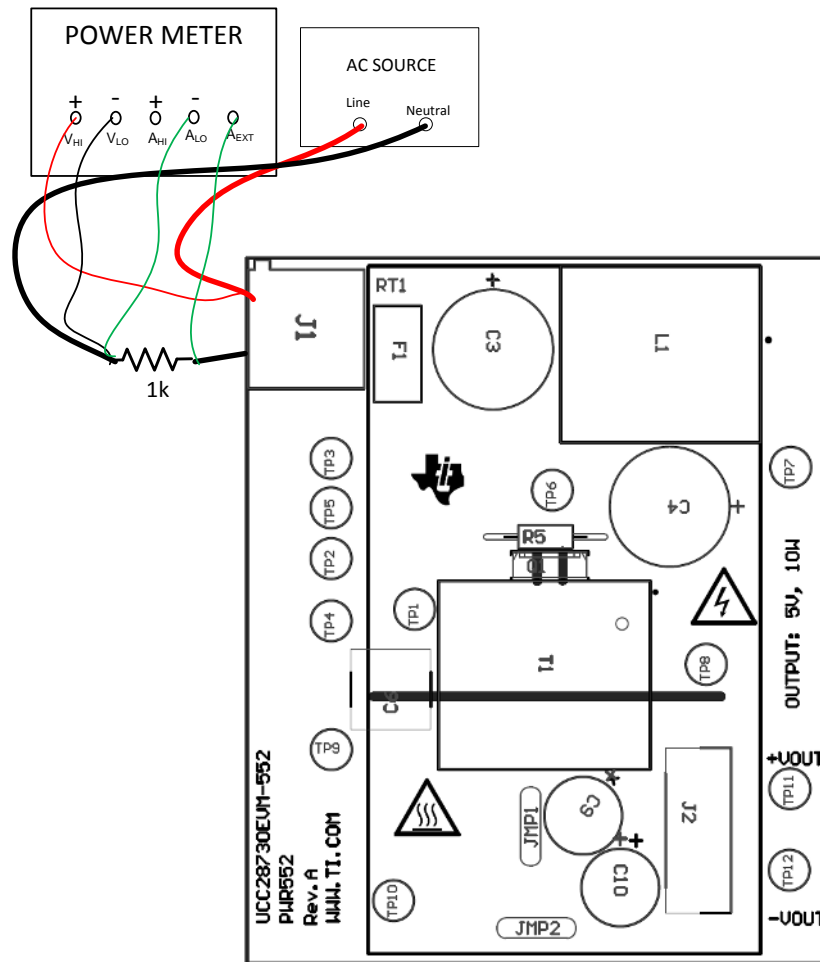
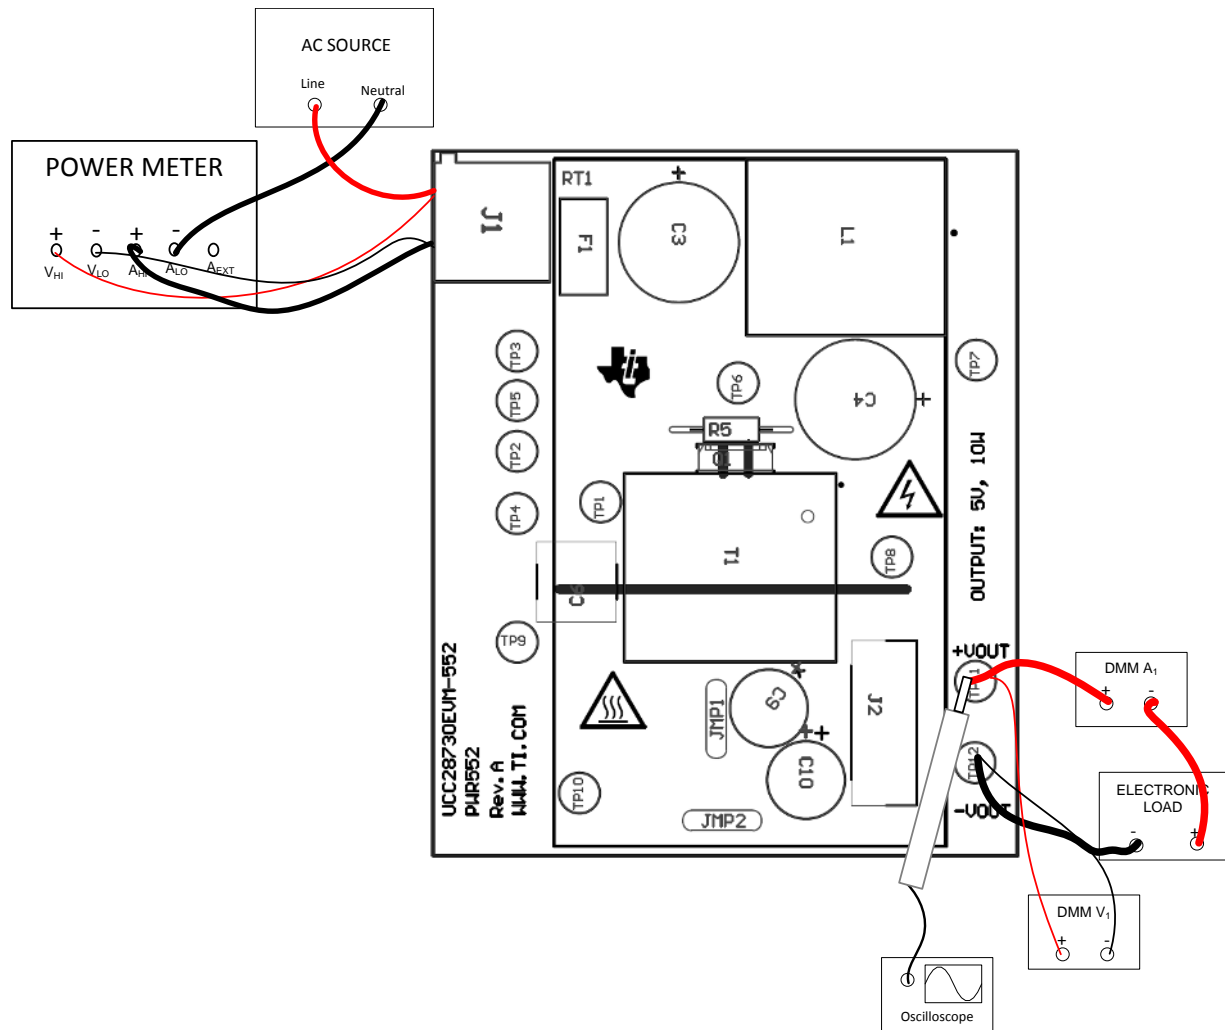

Figure 2. UCC28730EVM-552 Recommended Test Set Up For No-Load Operation
Figure 3. FUC28730EVM-552 Recommended Test Set Up With Load
Figure 2 shows the equipment set up when measuring the input power consumption during no-load operation. Note the addition of the 1-k Ω shunt resistor in Figure 2. During the no-load test, set the power analyzer for long averaging mode in order to include several cycles of operation. Use an appropriate current scale factor for the external shunt. Due to the extremely low measured values, placement of the shunt is critical and should be positioned right at the input terminals of the EVM. Figure 3 shows the recommended test equipment set up to evaluate the UCC28730EVM-552 with a load.
AC Voltage Source: For an input source, use an isolated variable AC source capable of supplying between 85 V_{AC} and 265 V_{AC} at no less than 20 W and connected as shown in Figure 2 and Figure 3. For accurate efficiency calculations, insert a power meter between the neutral line of the AC source and the Neutral terminal of the EVM. For highest accuracy in loaded conditions, connect the voltage terminals of the power meter directly across the Line and Neutral terminals of the EVM. For highest accuracy at no-load, connect the V₊ voltage terminal of the power meter at the Line terminal of the EVM and the V₋ terminal of the power meter ahead of the shunt resistor (refer to Figure 2).
Power Meter: Use a power analyzer capable of measuring low input current, typically less than 1 mA, and a long integration mode, when low power standby mode input power measurements are taken. An example of such an analyzer is the Voltech PM100 Single Phase Power Analyzer. An external precision 1-k Ω shunt, with a current scale factor of 100000 mV/A, was used. The power analyzer was set to integration mode over 6 minutes for a reading of mW-hour in order to display one-tenth the averaged results (refer to Figure 2).
Multimeters: For highest accuracy, V_{OUT} can be monitored by connecting a DC voltmeter, DMM V1, directly across the V_{OUT+}, TP 11, and V_{OUT-}, TP12, as shown in Figure 3. Place a DC current meter, DMM A1, in series with the electronic load for accurate output current measurements.
1. Set up the EVM as shown in Figure 2 if testing at no-load, or Figure 3 if testing with a load.
1. Use the test set up shown in Figure 2. Careful placement of the shunt resistor is required.
1. For load regulation, use the test set up shown in Figure 3.
2. For line regulation, use the test set up shown in Figure 3.